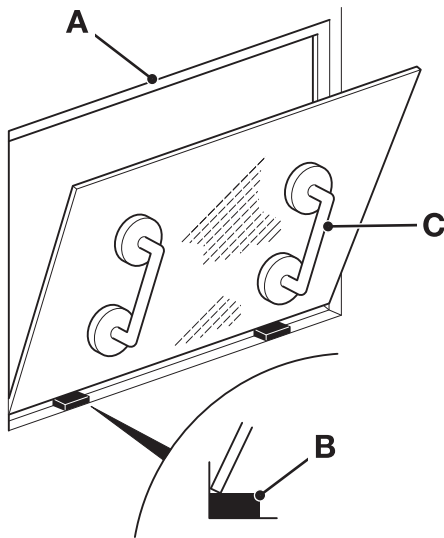

Fig 6.
- 1 Make sure that the new glass correctly fits the frame aperture **A**. → Fig 6. (B-22).